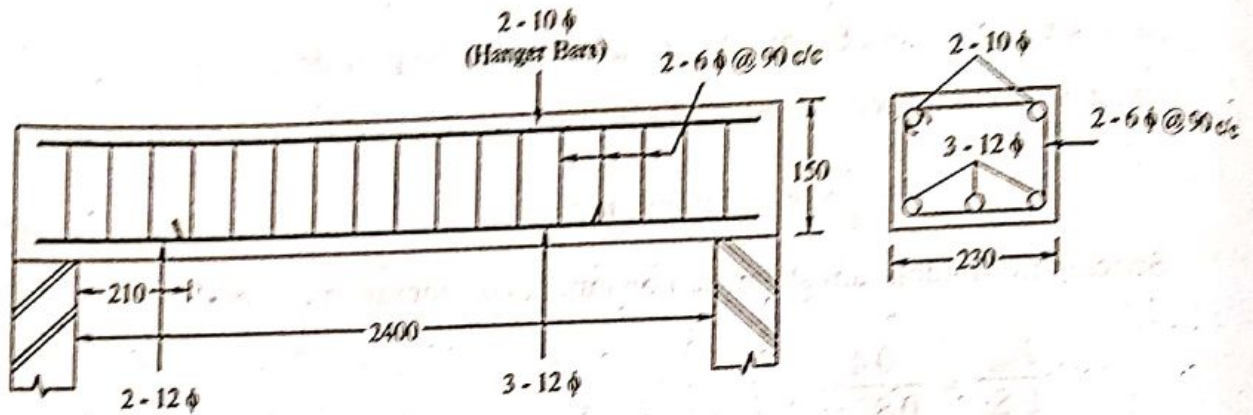

FIG 3.28 :
8. Details of Reinforcement are Shown in Fig. 3.28